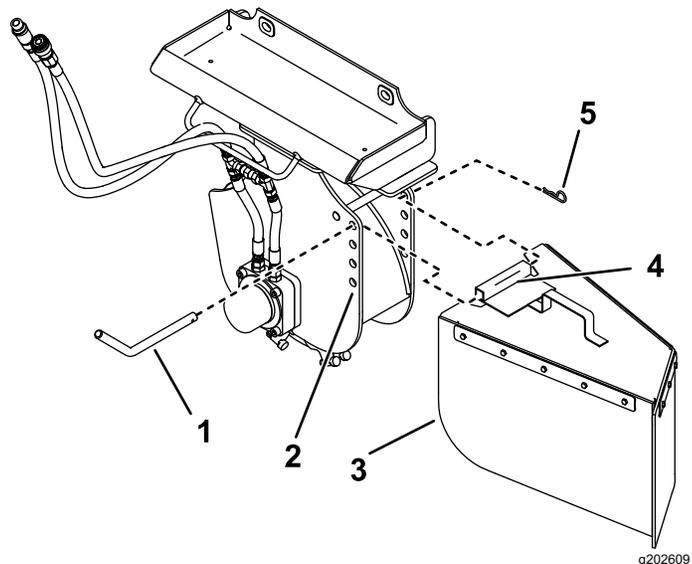

Figure 10
The stump grinder has 4 sets of mounting holes for positioning the chip guard (Figure 10). Move the guard up (upper holes) when you are grinding close to the ground and down (lower holes) when you are chipping tall stumps. Install the chip guard as follows:
- Position the mounting tube on the guard between 2 holes on the grinder (Figure 10).
- Slide the guard pin through the holes in the grinder and the mounting tube (Figure 10).
- Secure the pin with a hairpin cotter (Figure 10).